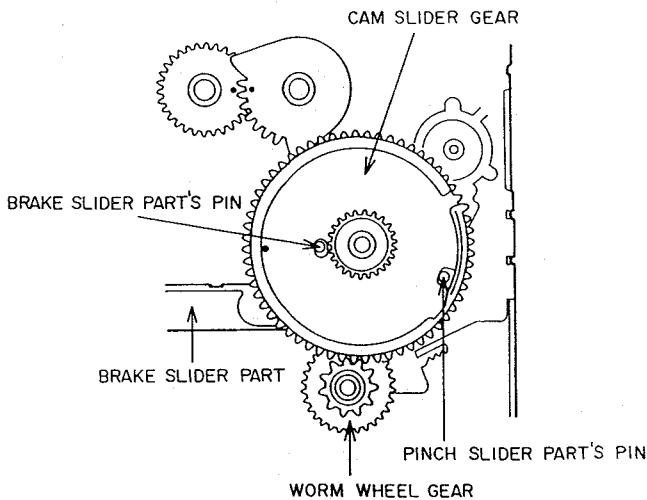

Fig. 3-11
- 1) Attach the WORM WHEEL GEAR as shown in Fig. 3-11.
- 2) Set the CAM SLIDER GEAR. At this time, adjust the position of the BRAKE SLIDER PART and PINCH SLIDER PART so that both pins appear through the holes on the CAM SLIDER GEAR as shown in Fig. 3-11.